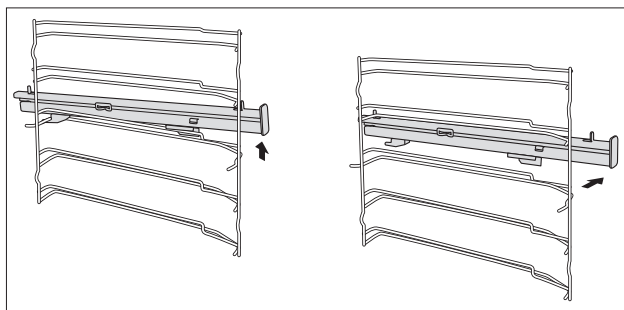

Fig. 1
2. Lift one end of the telescopic extension Fig. 1 with force